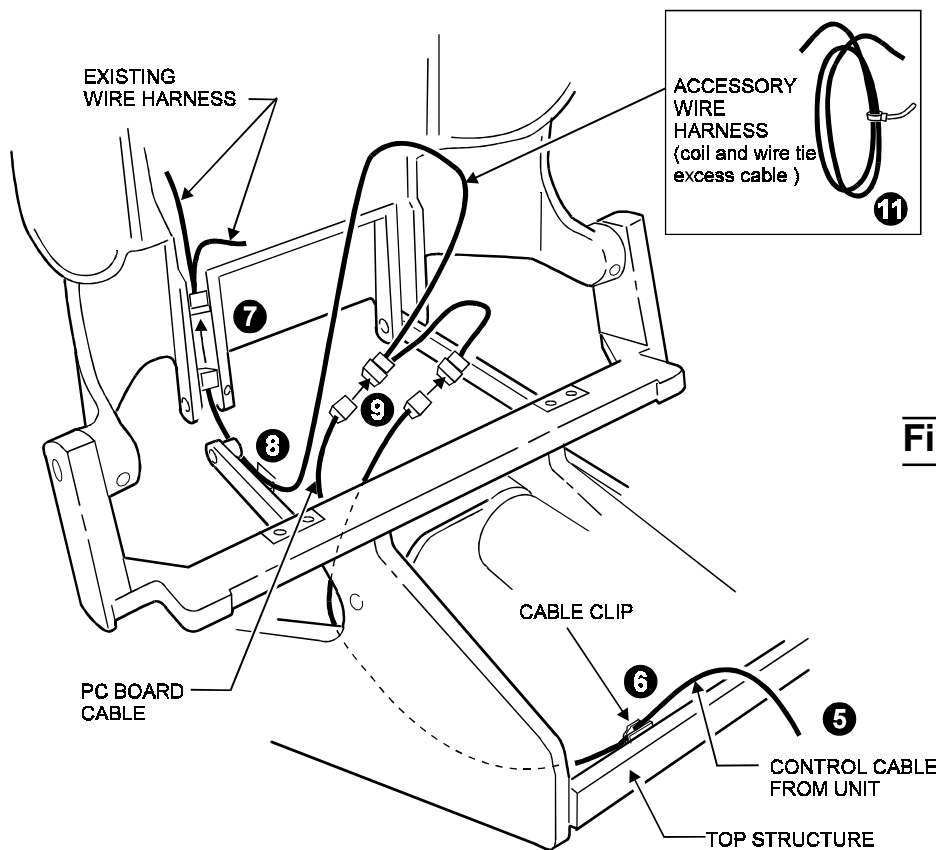

Figure 3
5. Route the control cable into the top structure of the chair (See Figure 3).
6. Install a cable clip to the inside front of the top structure to hold the harness in place (See Figure 3).
7. Plug the accessory wire harness into the connector on the existing wire harness (See Figure 3).
8. Insert the cable into the same cable clip that held the PC board cable. *This step is important to insure proper cable routing which will allow the chair back to move freely without damaging the cable* (See Figure 3).
9. Plug in the remaining two connectors as shown (See Figure 3)
11. Coil all excess cable and neatly tie with the plastic cable ties provided for that purpose (See Figure 3).